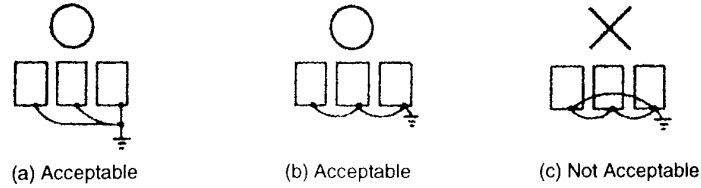

Figure 10 Grounding of Three Inverter Units
- When using several Inverter units side by side, ground the units as shown in *Figure 10, (a) or (b)*. Do not loop the ground wires as shown in *(c)*.